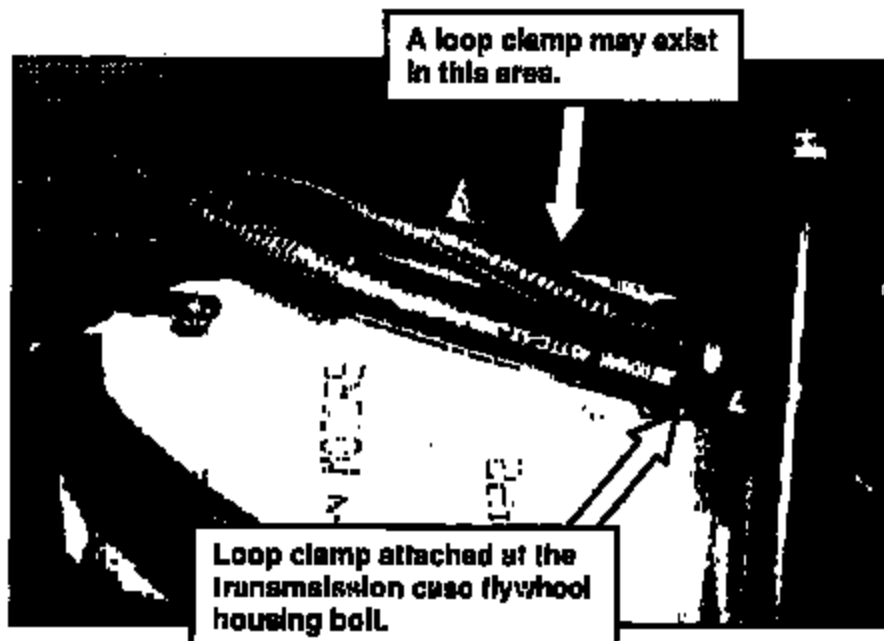

FIG. 4-1
- 11a. Install a loop clamp to the transmission case/flywheel housing bolt closest to the dipstick tube as viewed from the top of the transmission. Refer to FIG. 4-1. If a clamp exists at a different transmission case/flywheel housing bolt, relocate it to accommodate the routing as shown. Torque bolt to 41 +/- 3 lb. ft.